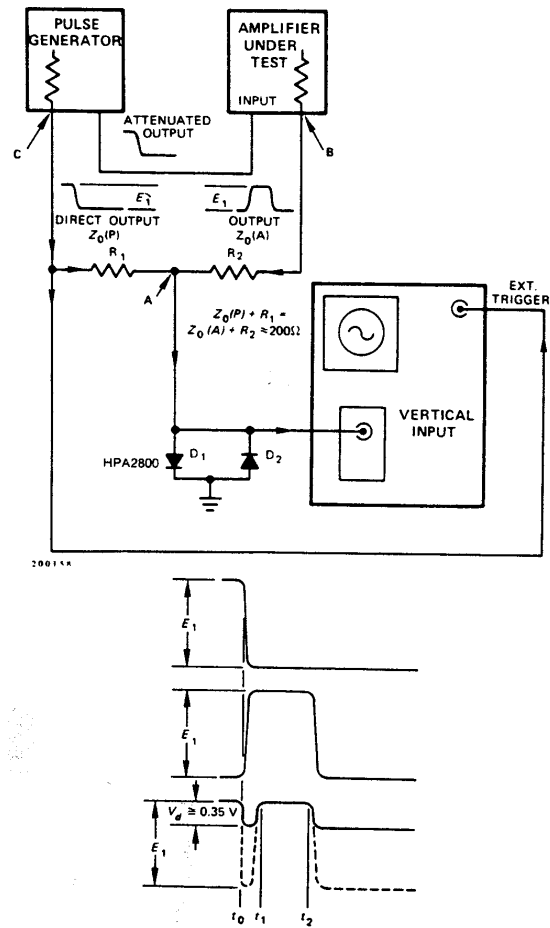

Fig. 6.1. Circuit Used to Measure Nonlinearity.
**LINEARITY** The integral nonlinearity can be measured by a circuit (Fig. 6.1) which subtracts the negative pulser output from the positive amplifier output to cause a null point that can be measured with excellent sensitivity. The pulser output must be varied between 0 and 10V, which usually requires an external control source for the pulser. The amplifier gain and the pulser attenuator must be adjusted to measure 0 V at the null point when the pulser output is 10 V. The variation in the null point as the pulser is reduced gradually from 10 V to 0 V is a measure of the nonlinearity. Since the subtraction network also acts as a voltage divider, this variation must be less than
**OUTPUT LOADING** Use the test setup of Fig. 6.1. Adjust the amplifier output to 10 V and observe the null point when the front panel output is terminated in 100 $\Omega$ . The change should be less than 2.5 mV.